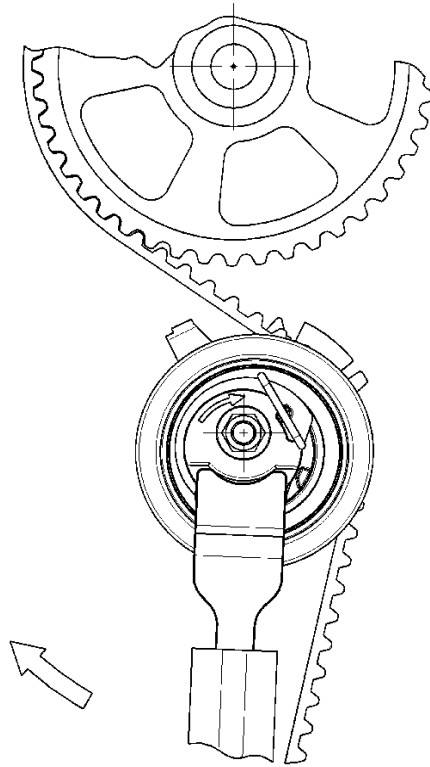

Figure 7: Rotate the Installation Shaft with the Installation Pin Inserted.
9. Engage the installation tool or the 6 mm hex allen key into the installation shaft. Turn the installation shaft clockwise (as indicated by the arrow mark on the shaft) and it will move against the inserted installation pin to drive the tensioner in a clockwise direction as well away from the belt, see Fig. 7.